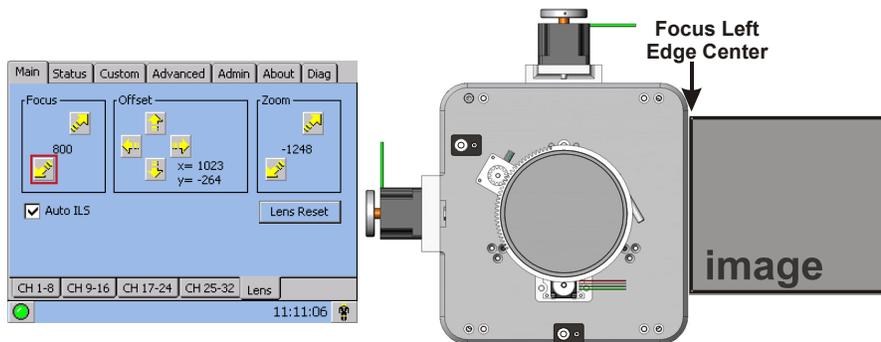

Figure 2-38 Adjust Focus
3. Adjust the **Focus** to retract the lens using the down arrow on the **Main: Lens** menu. See **Figure 2-38**. Watch the image at the left edge of the screen until it comes into focus. If the image appears well-focused on the left edge but not on the right, determine if the right side focuses in front of or behind the screen. If the entire screen come into focus, skip to step 7
7. Adjust the **Horizontal Hold Screw** to lock adjustments in place. Check boresight again. See **Figure 2-38**